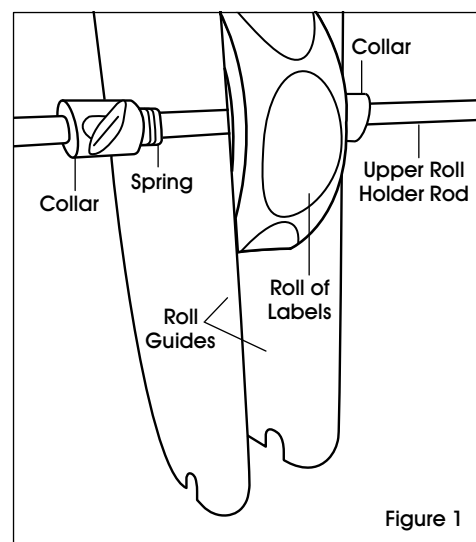

Figure 1
1. Attach a collar to the upper roll holder rod. (See Figure 1)